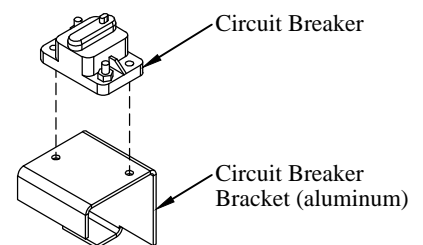

Figure 10: Circuit breaker bracket.
1. **Install** the circuit breaker onto provided aluminum bracket (Figure 10).